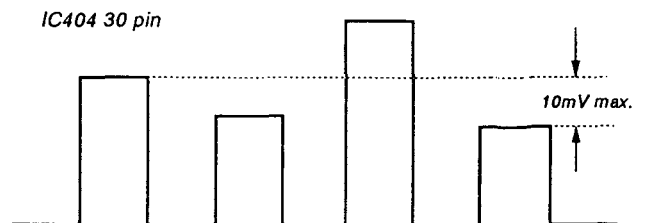

Fig. 13
- 4) Using **NTSC CHROMA NORMAL**, adjust so that the tops of the waveform line up as in the diagram below. (Fig. 13)